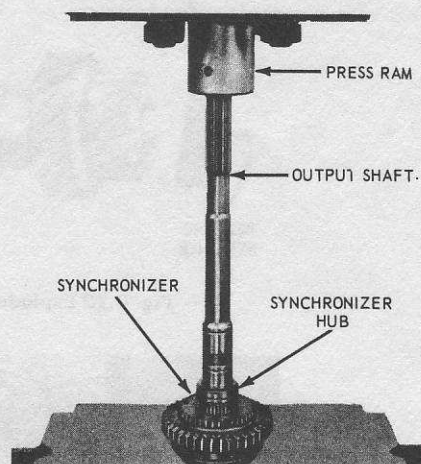

Fig. 6.18 Fitting the 1st/reverse synchronizer (3-speed) (Sec. 8)
- 4 Carefully press the reverse gear and synchronizer assembly onto the shaft, as shown in Fig. 6.18, then install the retaining snap-ring.